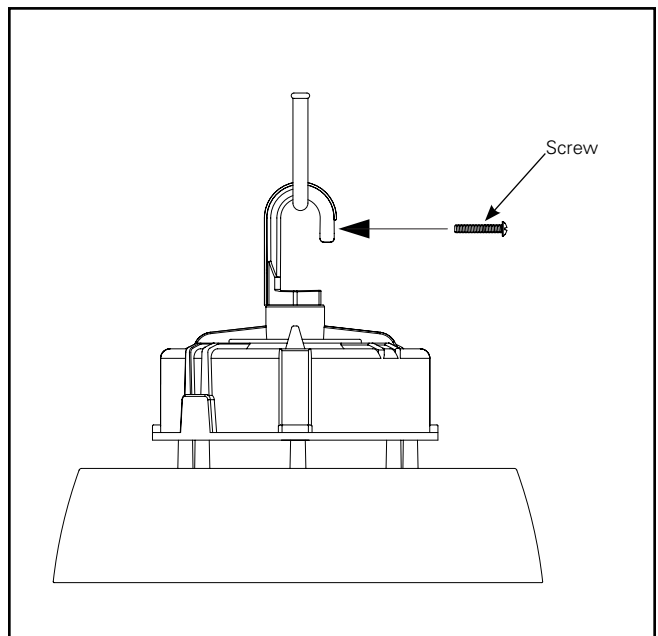

Figure 4.
4. Install the lock screw. (Figure 4.)